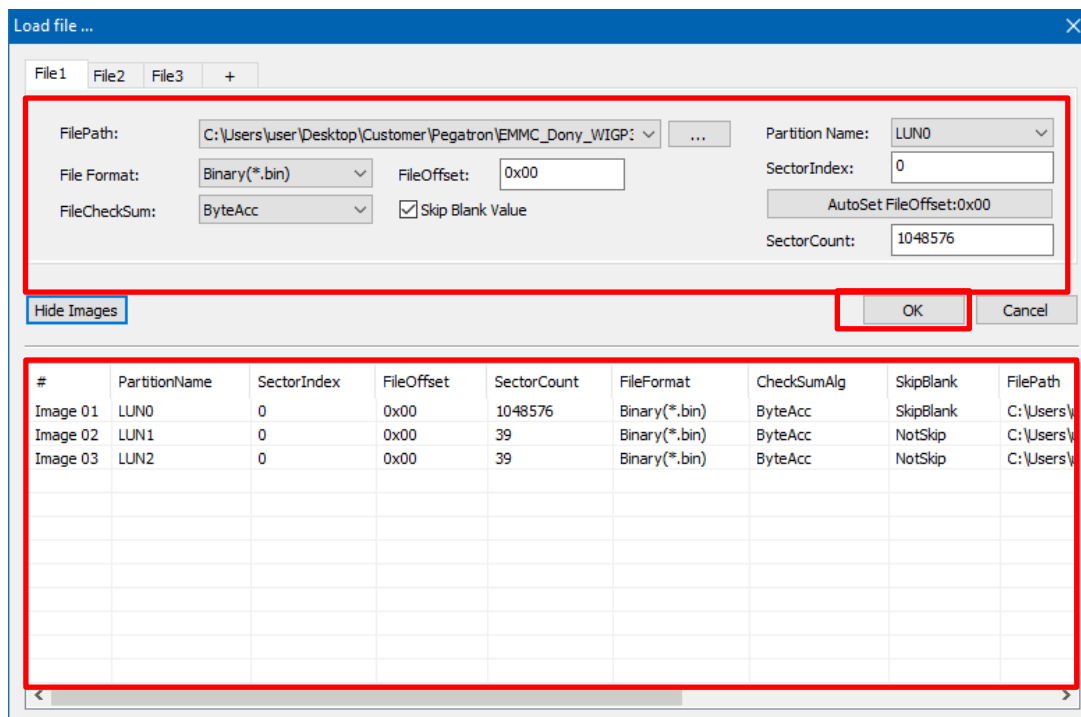

Fig. 5-34
Step 2. Load a programming file: load a programming file to each LUN partition separately (Fig. 5-34). Since LUN0 file is bigger and more dispersed, please select the **Skip Blank Value** to reduce the programming time.